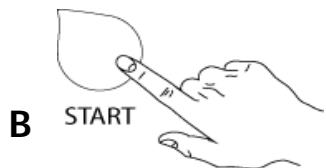

Fig.16
- 5- Press button "B" start washing cycle. (Fig.16)